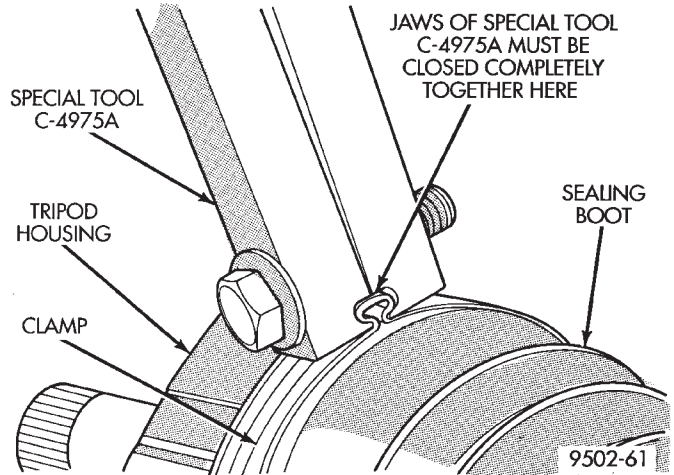

Fig. 38 Sealing Boot Retaining Clamp Installed
- Tighten nut on crimping tool C- 4975-A until jaws on tool are closed completely together, face to face (Fig. 38).